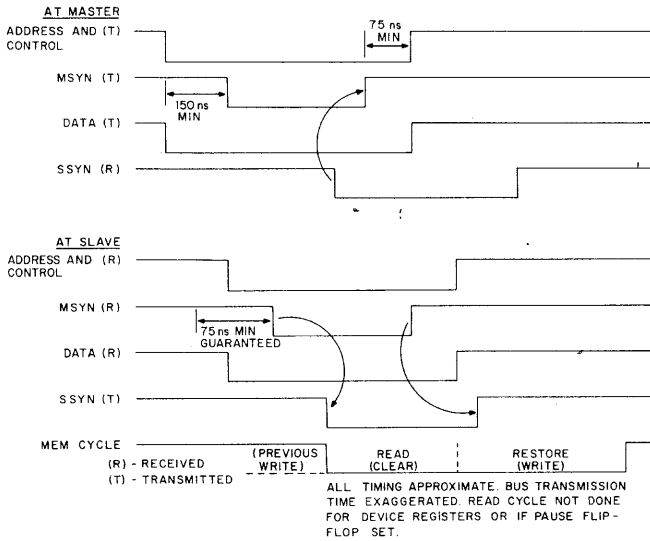

Figure 1-5 DATO or DATOB Timing Diagram
1.2.3 DATO and DATOB Bus Transactions (See Figure 1-5)